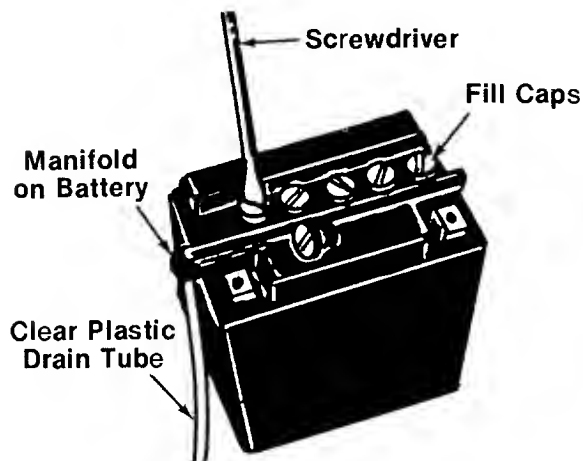

FIGURE 2.
- 3. Place one end of clear plastic drain tube on manifold of battery. See figure 2.
- 4. Remove the six fill caps from the top of the battery with a screwdriver. Care should be taken not to damage the fill caps. See figure 2.